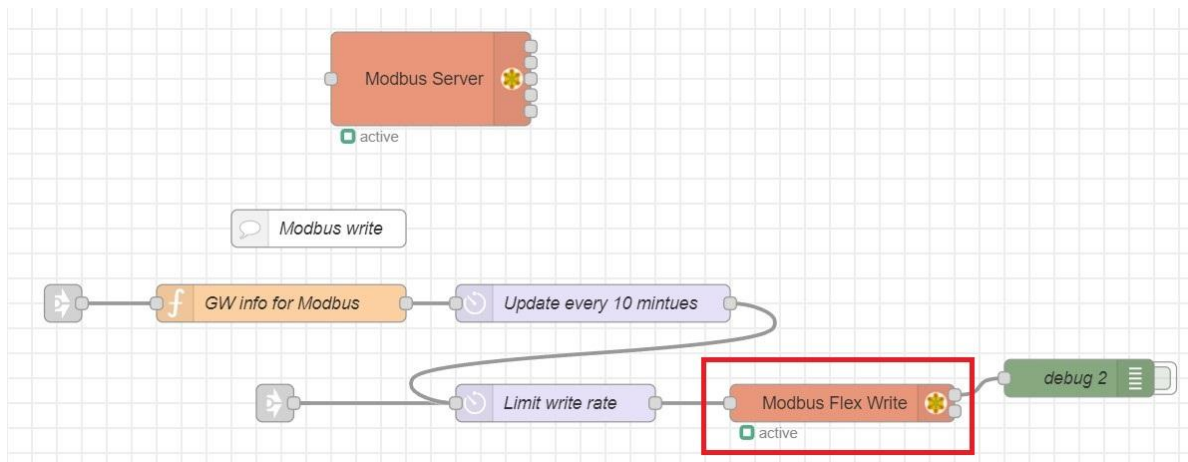
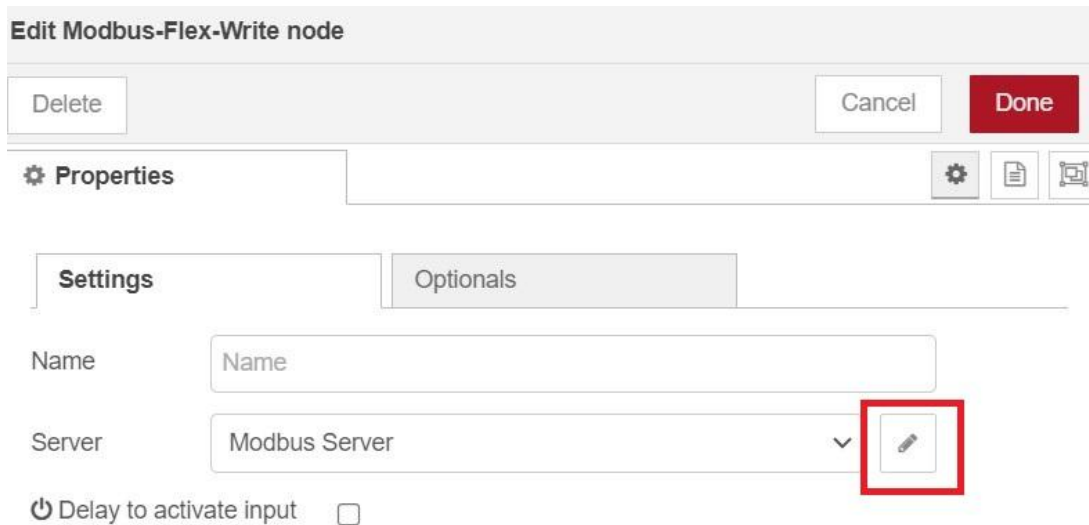

Figure 3 Modbus Flex write node
Figure 4 Edit Modbus server inside Flex write node
Step 2. Update write node port number. Double-click the “Modbus Flex Write” node (Figure 3), which opens the write node window (Figure 4). Click on the pencil sign beside “Modbus server” (Figure 4).